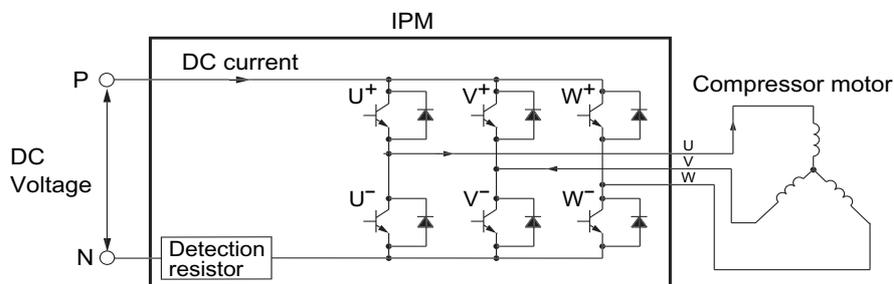

Fig. 6-9
1. Turns on the power module's U⁺ and V⁻ transistors so the current flows to the motor windings as shown in Fig. 6-9.